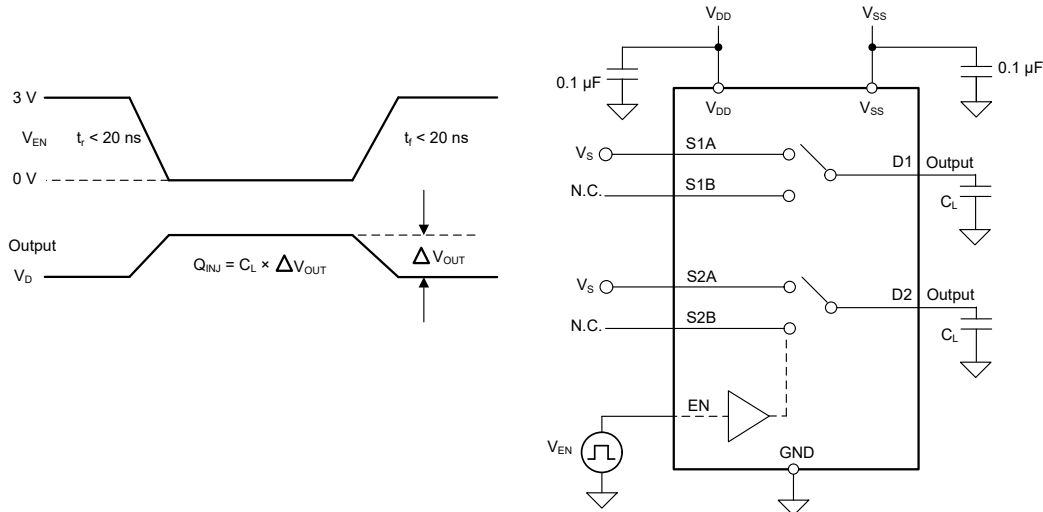

Figure 7-9. Charge-Injection Measurement Setup
The TMUX6236 has a transmission-gate topology. Any mismatch in capacitance between the NMOS and PMOS transistors results in a charge injected into the drain or source during the falling or rising edge of the gate signal. The amount of charge injected into the source or drain of the device is known as charge injection, and is denoted by the symbol Q_{INJ} . Figure 7-9 shows the setup used to measure charge injection from source (Sx) to drain (D).